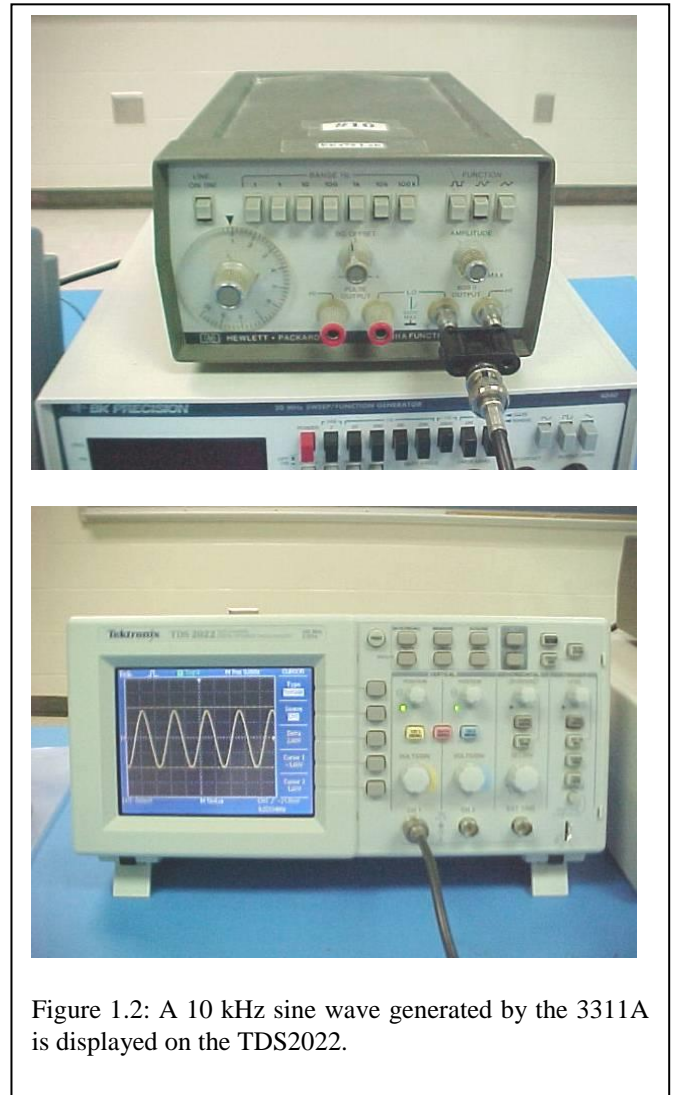

Figure 1.2: A 10 kHz sine wave generated by the 3311A is displayed on the TDS2022.
- The following bullets will show you how to use the 3311A function generator to produce a 1 V amplitude 10 kHz sine wave and view it on the TDS2022 scope. See Figure 1.2.